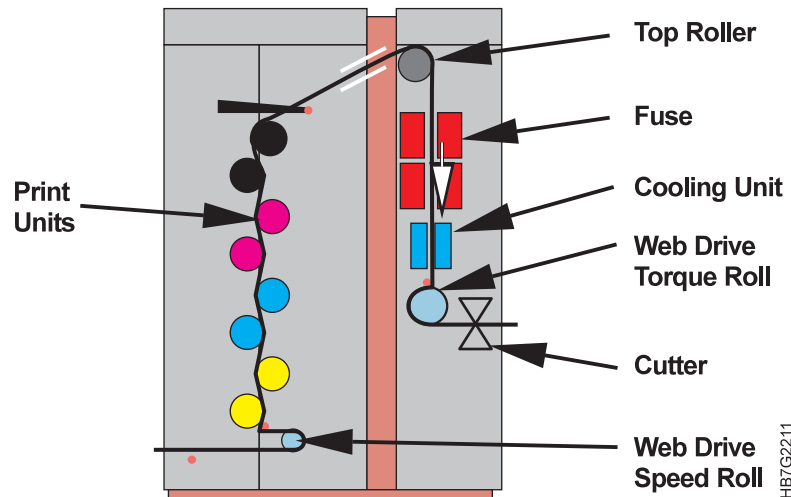

Figure 315. Print Tower and Fixed Tower Paper Path
- 12 Place the paper between the two parts of the cooling unit, as shown in Figure 315 on page 367.